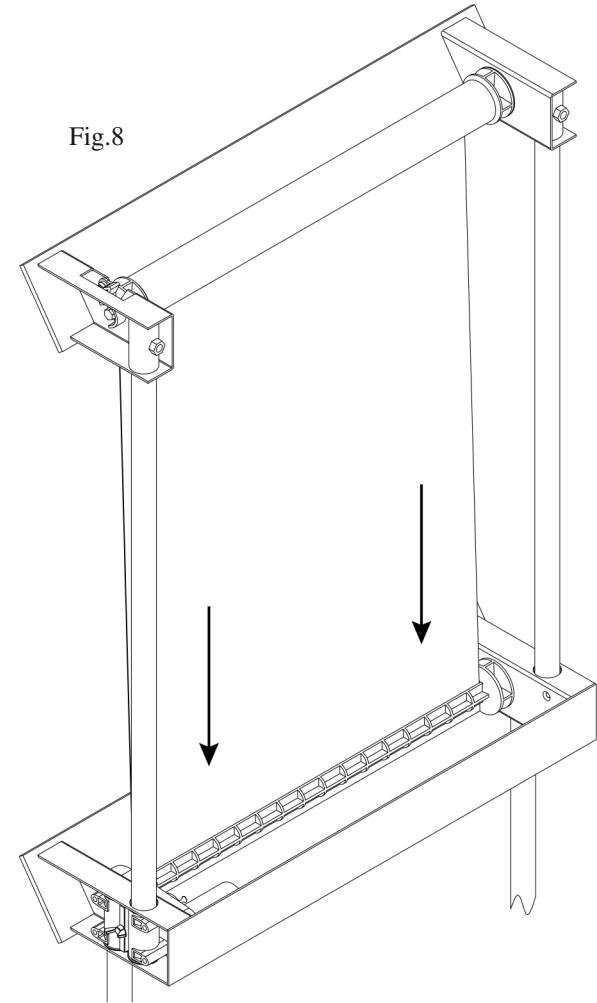

Fig.8
- Pull the target material downwards to the lower spindle and slip the end of it into the slot in the center. Allow for about an inch of target to protrude through the bottom of the spindle. (See Fig.8)